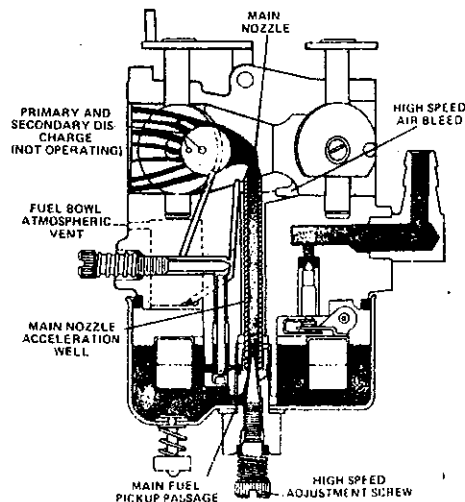

Figure 5
- E. During HIGH SPEED operation (see Figure 5)